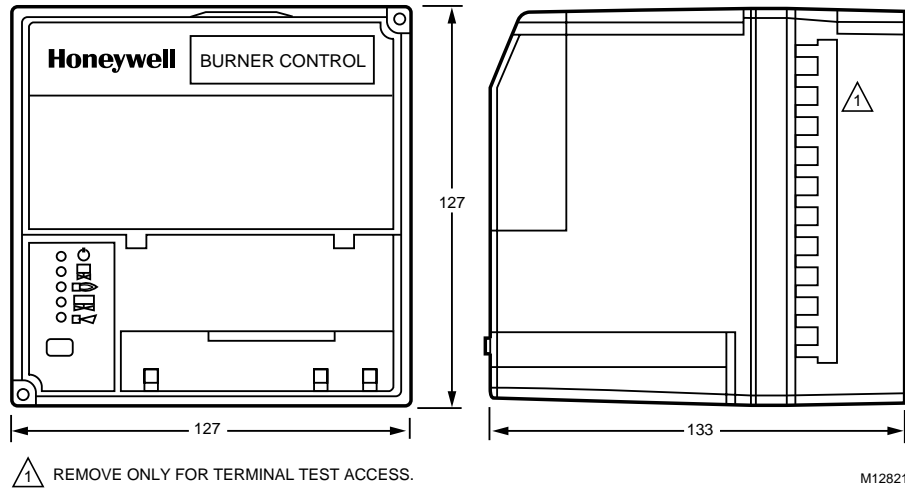

Fig. 1 Mounting dimensions of relay module and wiring subbase in millimeters only.
- Five sequence information light emitting diodes (LED)—with symbols for Power, Pilot, Flame, Main and Alarm (see Fig. 1).